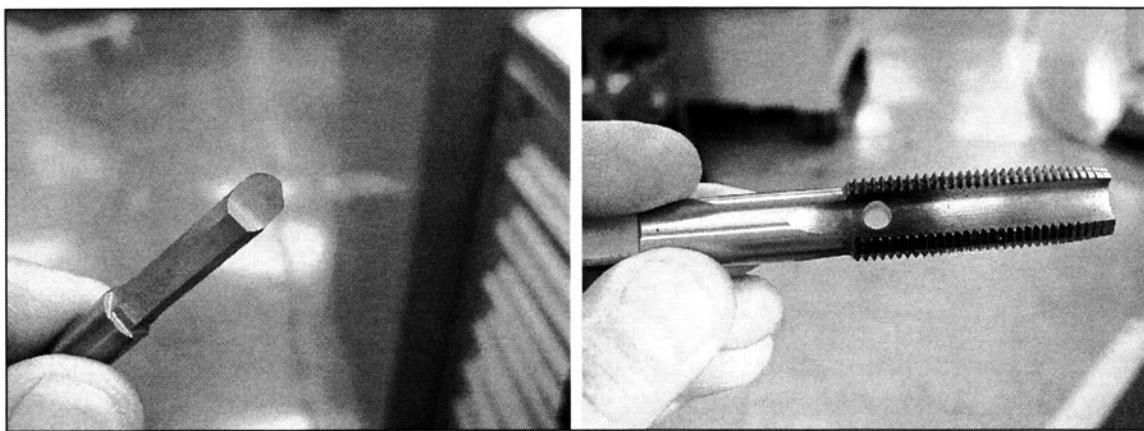

FIGURE 7-15 A carbide single flute ball nose cutter can be used to bore out broken taps. The tap on the right was bored through as an example.
16. Use a six sided carbide ball nose cutter for drilling out broken taps. (See Fig. 7-15)